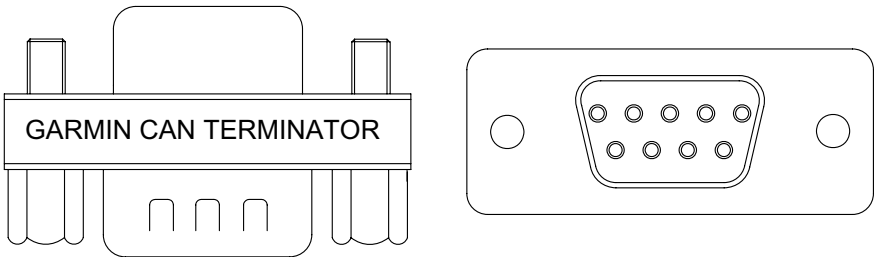
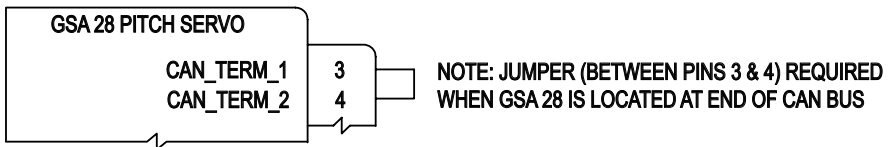

Figure 1-2 CAN Bus Termination (011-02887-00) for the G5 and GAD 29
Figure 1-3 CAN Bus Termination for the GSA 28
The G5 installation kit provides a DB-9 CAN Bus terminator that contains a 120 Ohm resistor connected between pins 1 and 2 (Figure 1-2). The GSA 28 servos contain a 120 Ohm resistor inside the unit that provides the termination when pin 3 is connected (outside of the unit) to pin 4 (Figure 1-3).
- 3) If a G5 or GAD 29 (that was used as a CAN bus termination) is removed, the CAN bus will remain terminated as long as the CAN bus terminator (Figure 1-2) is left connected.
**NOTE:** The 120 Ω termination resistors described in the preceding paragraphs are “built-in” to the termination methods shown in the following figures. Do not install a separate “discrete” 120 Ω resistor to terminate the CAN bus in addition to the termination methods shown in Figure 1-2 and Figure 1-3.